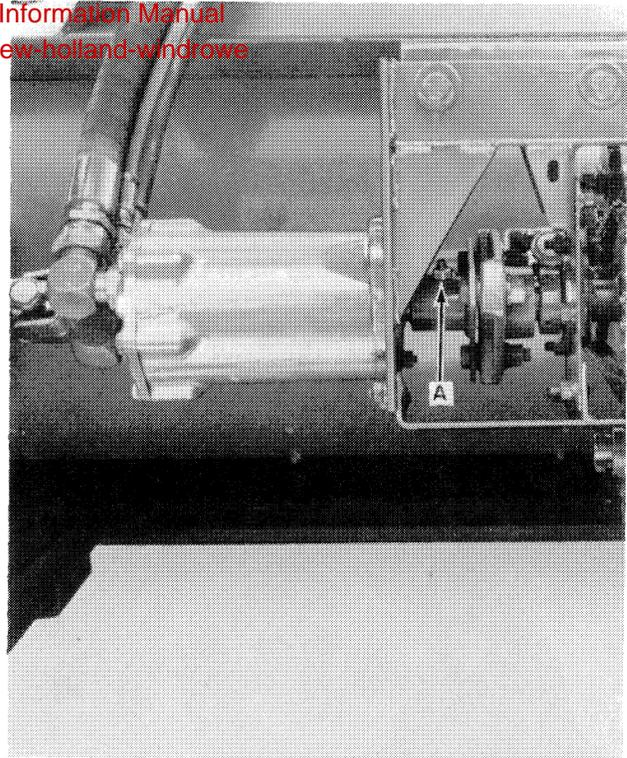

FIGURE 20
1. Disconnect hoses from motor, Figure 20. Cap hoses to prevent foreign material from entering system.